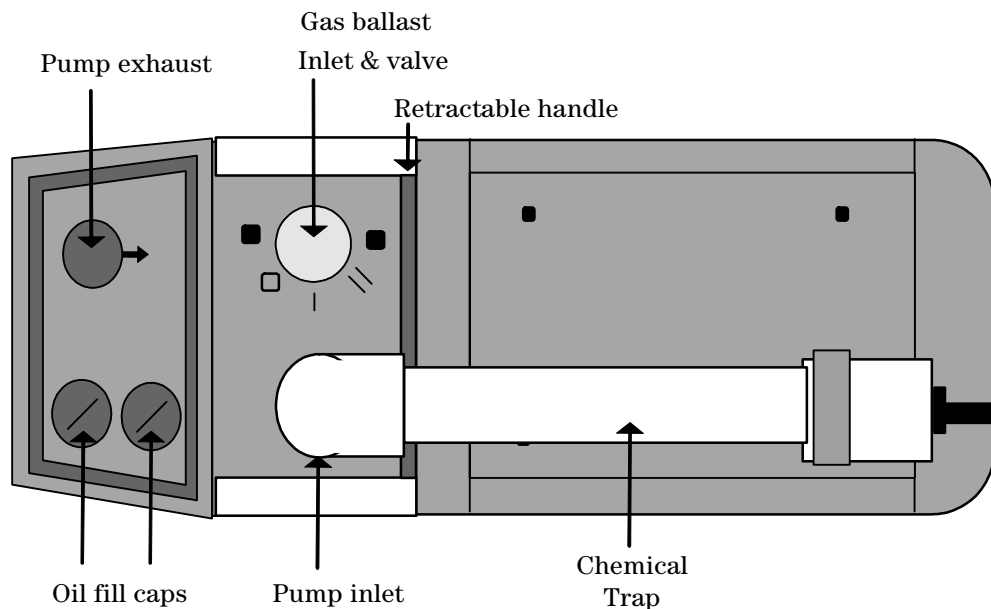

Figure 3 RV-5 Oil-Sealed Vacuum Pump (Top View)
3. Install the metal, conical screen and black centering o-ring into the pump inlet port (Figure 3).
14. Remove the plastic protective cover from the pump exhaust port. Place the centering o-ring on the pump exhaust port (Figure 3).
18. Turn the gray plastic, gas ballast control to position II, the high flow position (Figure 3).